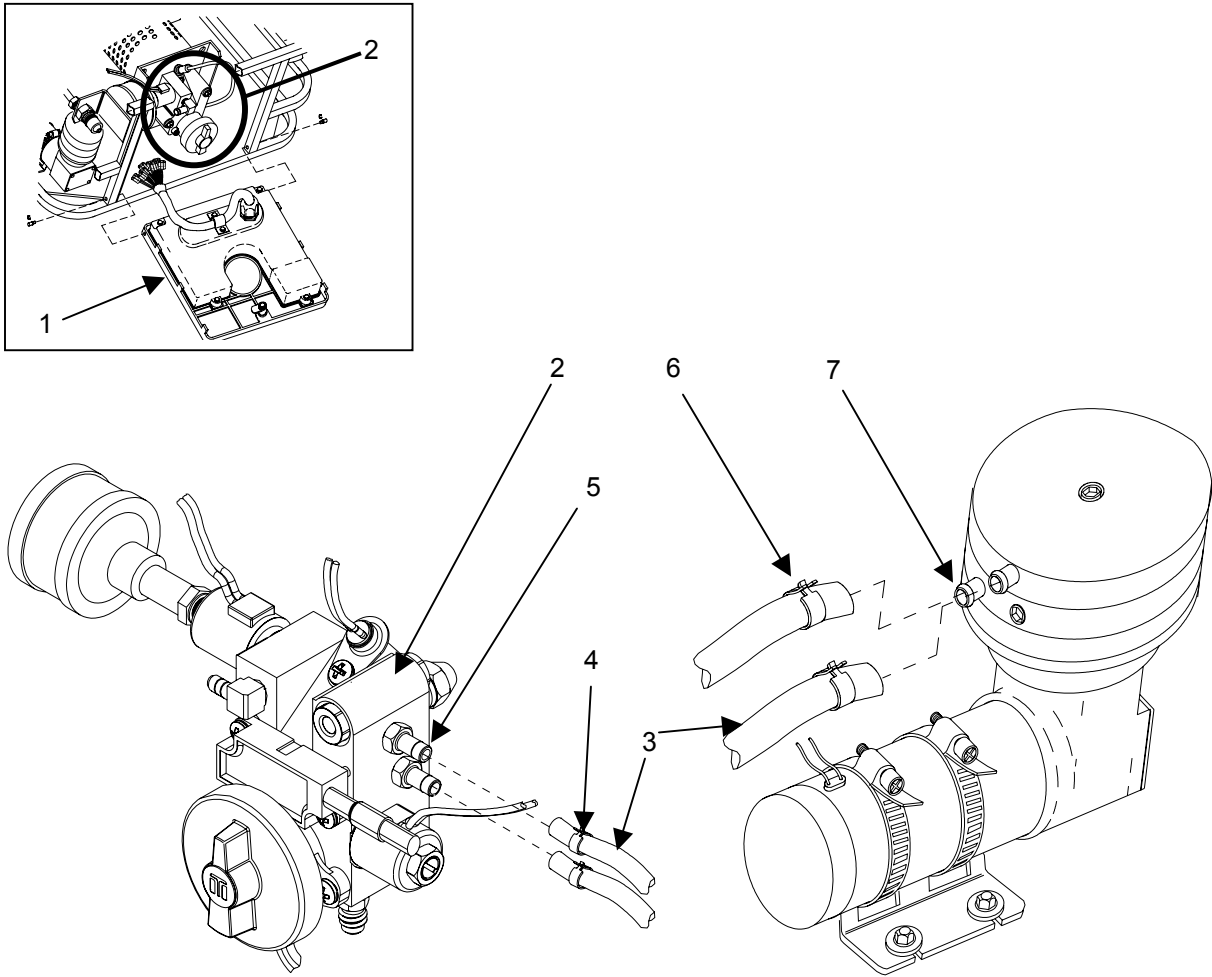

Figure 17. Replace Neoprene Air Lines
2. Open control panel (**figure 17, item 1**) to gain access to the fuel delivery block assembly (**figure 17, item 2**).
3. To replace either of the neoprene air lines (**figure 17, item 3**), squeeze the tabs on hose clamp (**figure 17, item 4**) with a pair of pliers and slide the clamp off the fuel delivery block fitting (**figure 17, item 5**) and onto the air line.
4. Squeeze the tabs on hose clamp (**figure 17, item 6**) with a pair of pliers and slide the clamp off the air compressor fitting (**figure 17, item 7**) and onto the air line (**figure 17, item 3**).
5. After removing the clamp, grasp the end of the air line (**figure 17, item 3**) connected to the fuel delivery block fitting (**figure 17, item 5**) and pull while wiggling from side to side, until the line is free. If any of the fuel delivery block fittings require replacement, simply loosen with an open end wrench and install a new fitting.
6. Remove the end of the air line (**figure 17, item 3**) connected to the air compressor fitting (**figure 17, item 7**) in a similar manner. Be sure to wipe up any fuel that may have dripped from the line. If any of the air compressor fittings require replacement, simply loosen with an open end wrench and install a new fitting. Be sure to clean the area where the fittings install into the compressor of pipe sealer residue. Apply new joint sealer compound to the fitting threads before installation.
7. Using the damaged air line (**figure 17, item 3**) as a size guide, cut a new piece of air line of the same length from the bulk supply of neoprene hose. Remove the clamps (**figure 17, item 4, figure 17, item 6**) from the damaged air line and install on the new line, sliding each about 1.5 to 2 inches from the end.
8. Reinstall the new line, pushing one end fully onto the fuel delivery block fitting (**figure 17, item 5**) and the other end onto the air compressor fitting (**figure 17, item 7**).
9. Squeeze the tabs on the clamps (**figure 17, item 4, figure 17, item 6**) with a pair of pliers and slide one clamp up on the fuel delivery block fitting (**figure 17, item 5**) and the other end onto the air compressor fitting (**figure 17, item 7**). Be sure to position the tabs so that they can be easily accessed should service be required at a later date.
10. Close the control panel (**figure 17, item 1**).